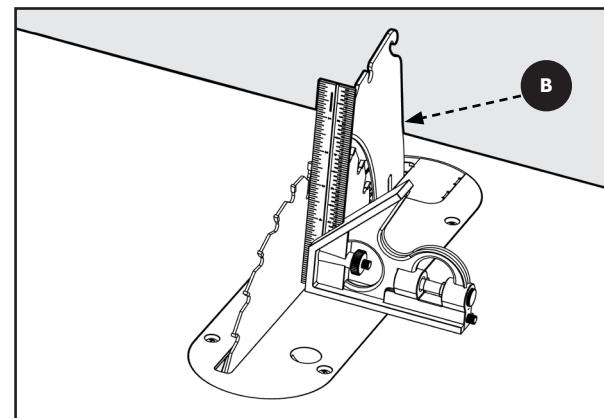

Figure 40
- Vertical Alignment:** Place a combination square on the table and against the blade face and make sure it extends up along the riving knife **B**, see Figure 40. The riving knife and blade should touch the carpenter's square with no gaps. Be sure the straight edge goes between the teeth and rests on the blade face and the riving knife for proper alignment.